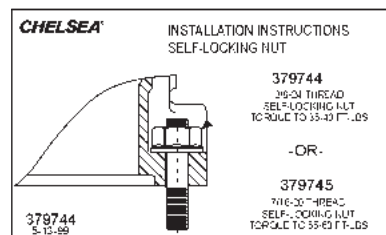

Figure 78
**NOTE:** Self-locking nuts do not require lock washers (**Fig. 78**).